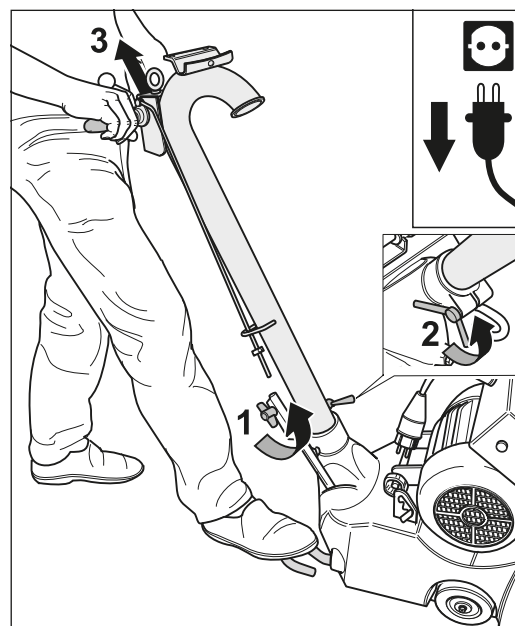

Fig. 57 After opening the wing screw (1) and wing nut (2) which fasten the rod linkage, the guide tube can be drawn out of the machine housing (3).
- 11 Open the wing screw at the lower rod (fig. 57, 1) and the wing nut at the machine housing (fig. 57, 2).
- 12 Pull the guide tube out of the machine housing (fig. 57, 3).